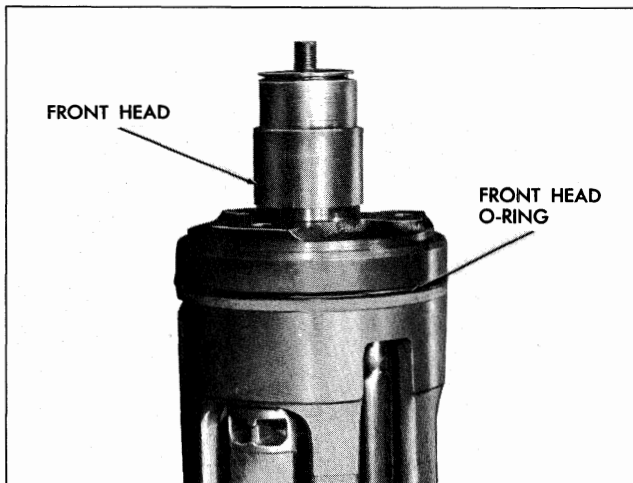

Fig. 5-33 Front Head Casing Installed
6. Examine location of dowel pins and contour of webs (mark dowel location). Rotate so as to position it properly over discharge reed retainers. Use care to avoid damaging teflon gasket surfaces. When in proper alignment, seat on compressor front head casting with light mallet taps (Fig. 5-33).